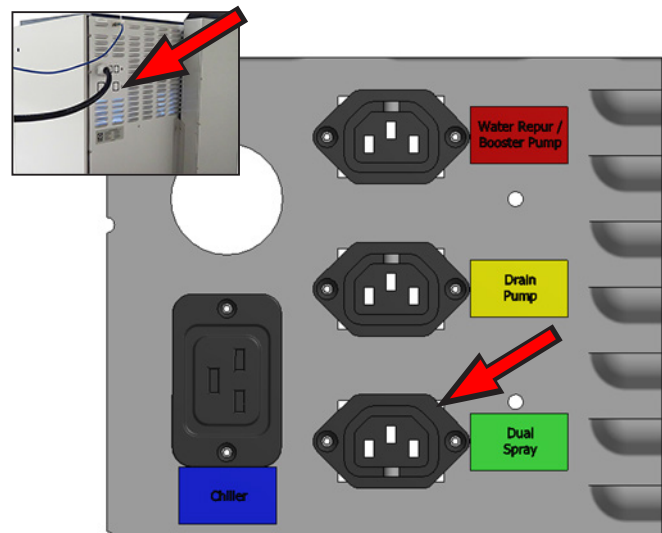

Figure 3.4: Power Outlet for Dual Spray on Rear of Xe-3 Tester
- Each Dual Spray unit comes with a 1.8m (6ft) power cord that plugs into the outlet labeled “Dual Spray” on the rear of the Q-SUN tester (see Figure 3.4).